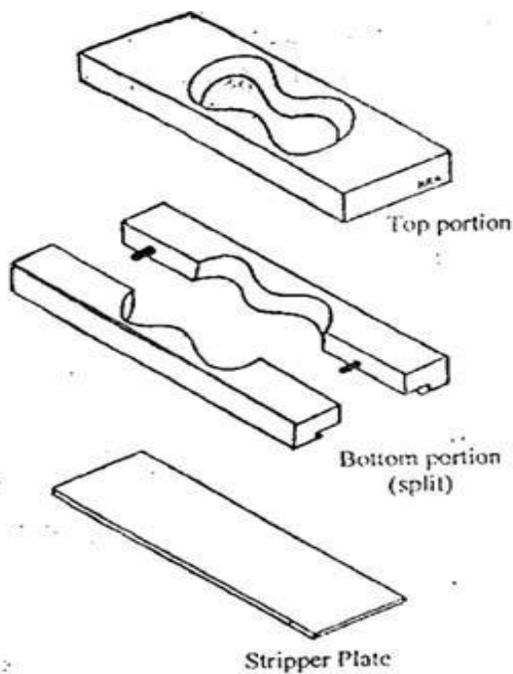

Fig. 1 – Split Core Box (Tensile)
- 1) Split core box for tensile specimen (fig.1)